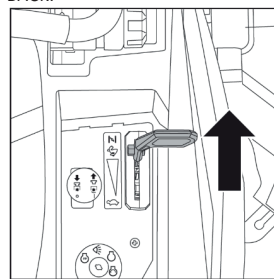

FIG.13
2. REMOVE THE FUEL CAP (FIG.13)